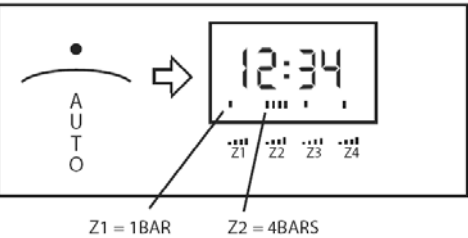

Fig.11
2. Change the status of zone 1 by pressing the '+' and '-' buttons. Zone 1 will change between 1 and 4 bars (see Fig.11 and Table 5)